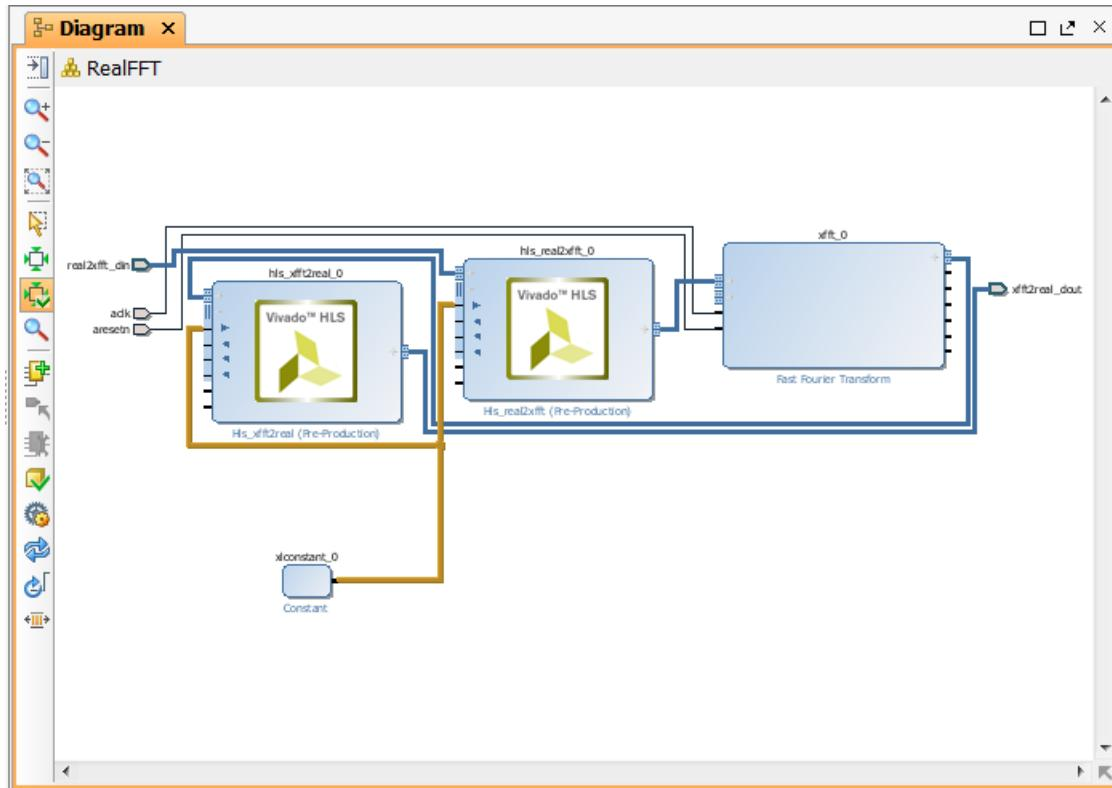

Figure 9-24: Connect AP_START to Constant
- f. Connect ap_start in both HLS blocks to the Constant block (Figure 9-24).